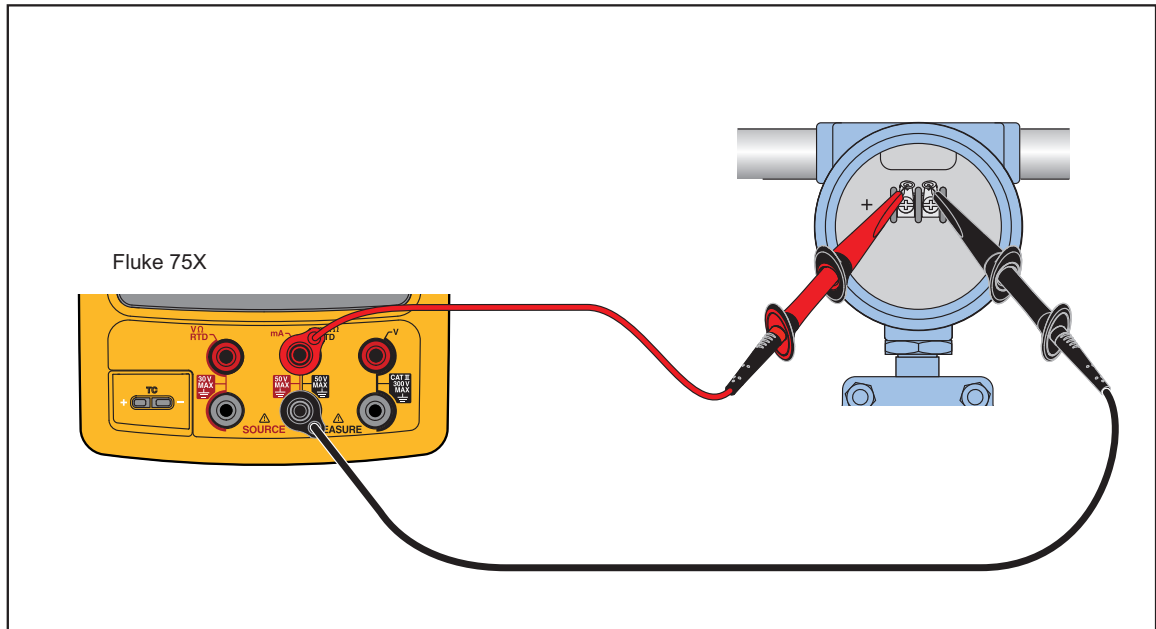

Figure 15. HART Mode Verification Connections
6. Connect the Product to the HART transmitter as shown in Figure 15.